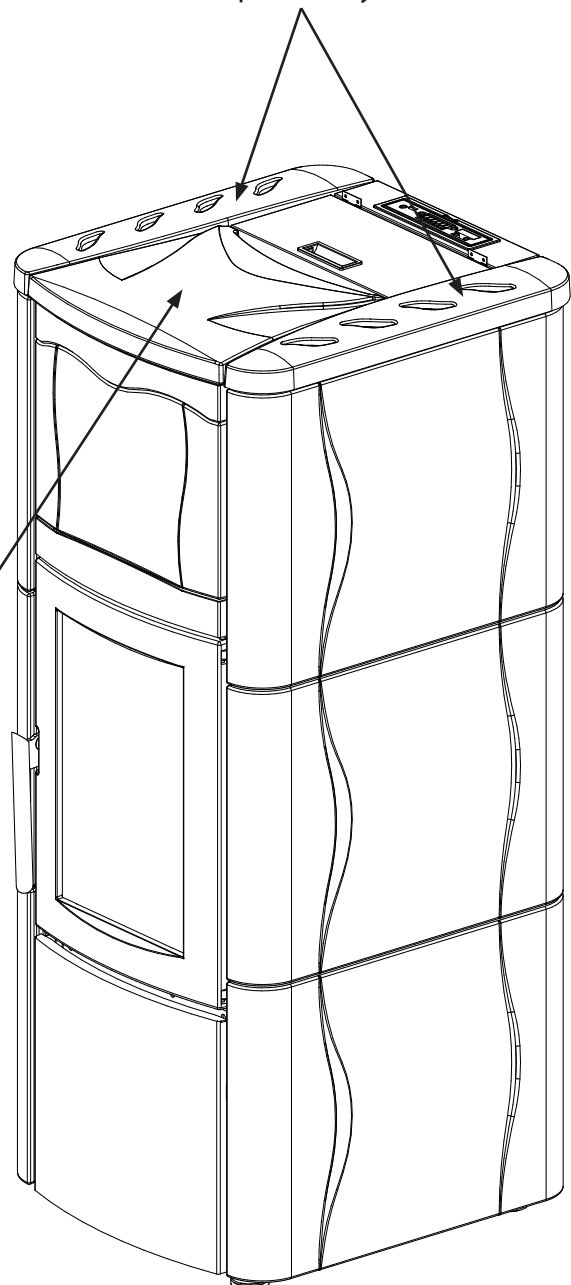

figure 10.4
2. rotate the handle at 90° (figure 10.4)